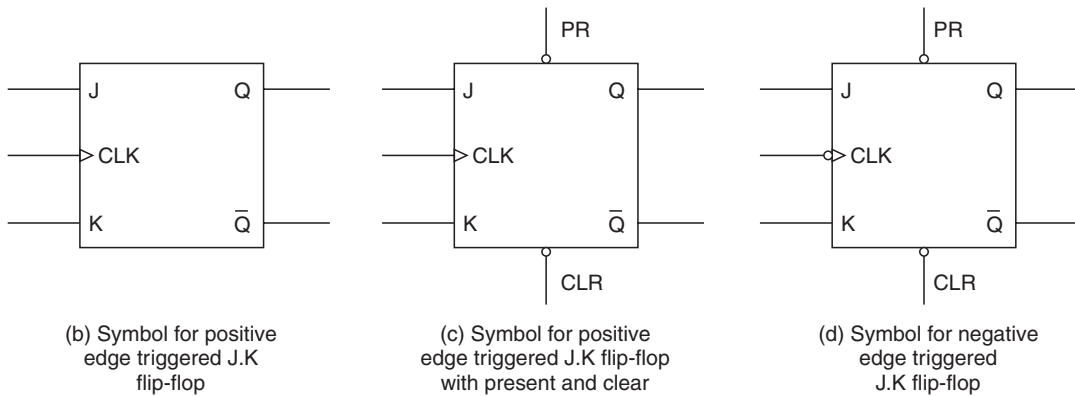

Fig. 33. Edge triggered *J-K* flip-flop.
Fig. 33 (a) shows the circuit diagram of a edge triggered $J-K$ flip-flop used in *digital counters*. The CLK input is through an RC circuit with a short time constant. The RC circuit converts the rectangular clock pulse to narrow spikes as shown. Due to double inversion through NAND gates, the circuit is positive edge triggered.
- Fig. 33(b) shows the symbol for positive edge triggered $J-K$ flip-flop.
- Fig. 33(c) shows a positive edge $J-K$ flip-flop with present (PR) and clear (CLR)
- Fig. 33(d) shows the symbol for negative edge triggered $J-K$ flip-flop with PR and CLR . The *small bubble at CLR indicates negative triggering*.